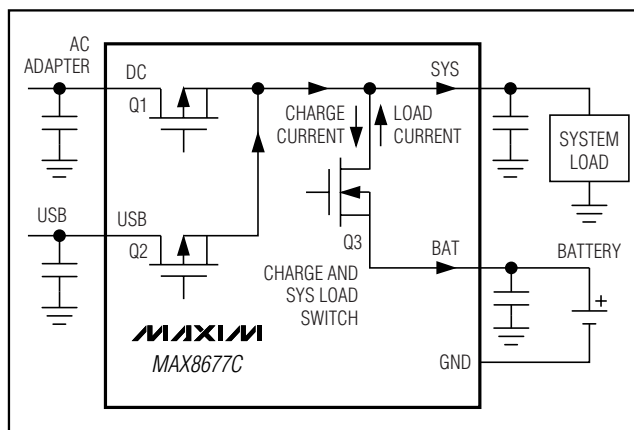

Figure 4. Smart Power Selector Block Diagram
The MAX8677C Smart Power Selector seamlessly distributes power between the external inputs, the battery, and the system load (Figure 4). The basic functions performed are:
An internal 40mΩ MOSFET connects SYS to BAT (Q3, Figure 4) when no voltage source is available at DC or USB. When an external source is detected at DC or USB, this switch is opened and SYS is powered from the valid input source through the input limiter.
The input voltage limiter is essentially an LDO regulator. While in dropout, the regulator dissipates a small  $I^2R$  loss through the  $0.2\Omega$  MOSFET (Q1, Figure 4) between DC and SYS. With an AC adapter or USB source connected, the input limiter distributes power from the external power source to the system load and battery charger. In addition to the input limiter's primary function of passing power to the system and charger loads at SYS, it performs several additional functions to optimize use of available power:
- **Input Voltage Limiting.** If an input voltage is above the overvoltage threshold (6.9V typ), the MAX8677C enters overvoltage lockout (OVLO). OVLO protects the MAX8677C and downstream circuitry from high-voltage stress up to 14V at DC and 8V at USB. In OVLO, VL remains on, the input switch that sees overvoltage (Q1, Q3, Figure 4) opens, and the appropriate power-monitor output ( $\overline{DOK}$ ,  $\overline{UOK}$ ) is high impedance, and  $\overline{CHG}$  is high impedance.
If both DC and USB see overvoltage, both input switches (Q1 and Q2, Figure 4) open and the charger turns off. The BAT-SYS switch (Q3, Figure 4) closes, allowing the battery to power SYS.
An input is also invalid if it is less than BAT, or less than the DC undervoltage threshold of 3.5V (falling). With an invalid input voltage, SYS connects to BAT through a  $40m\Omega$  switch (Q3, Figure 4).
The total current through the switch (Q1 or Q2 in Figure 4) is the sum of the load current at SYS and the battery charging current. The limiter clamps at 4.35V, so input voltages greater than 4.35V can increase power dissipation in the limiter. The limiter power loss is  $(V_{DC} - 4.35) \times I$ , but not less than  $I^2 \times 0.2\Omega$ . Also note that the MAX8677C turns off any input that exceeds 6.9V (nominal).